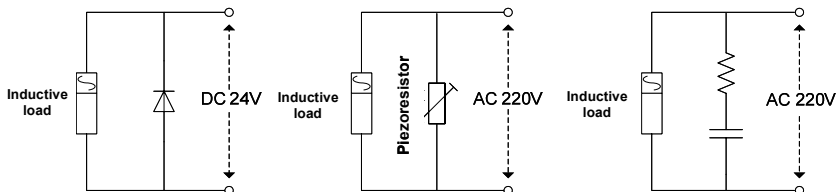

Figure 3-5 Application of inductive load surge suppressor
- ◆ When the inverter is connected to the inductive load equipment (e.g. electromagnetic contactor, relay and solenoid valve), surge suppressor must be installed on the load equipment coil, as shown in Figure 3-5.